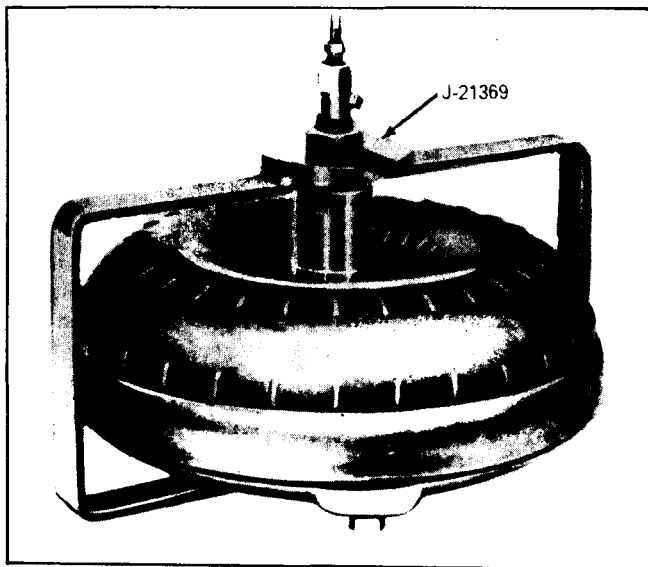

Fig. 7F-59 Air Checking Converter
- a. Install Leak Test Fixture J 21369-2 and -6 on converter hub and tighten (Fig. 7F-59).